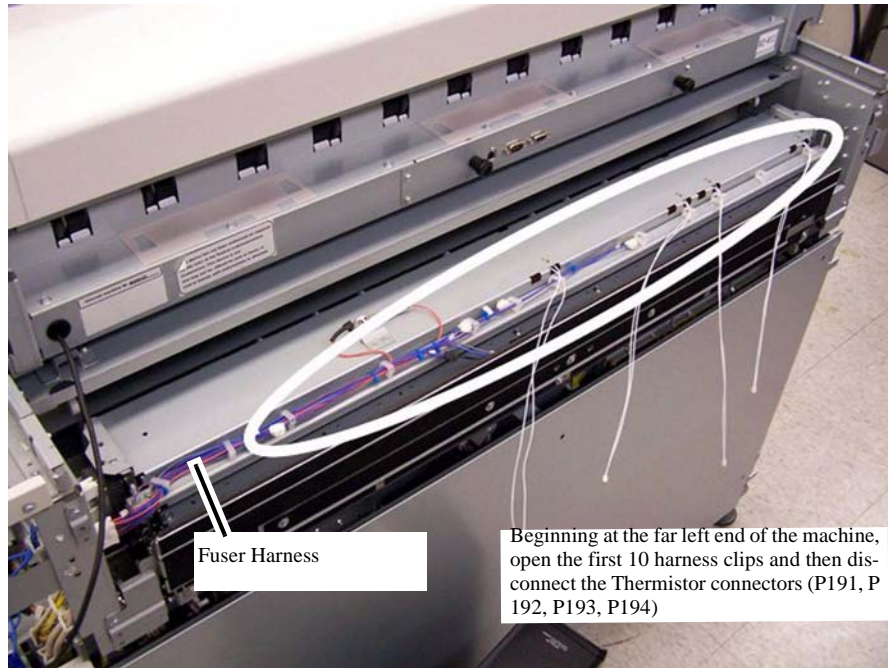

Figure 2 Thermistor Plate removal
- b. Open the clips that secure the Thermistor wires to the Fuser Harness, and then disconnect the Thermistor connectors (P191, P192, P193, P194) (Figure 2).